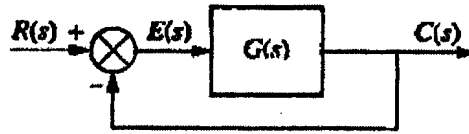

Figure 3
3. The unity feedback system shown in Figure 3, where $G(s) = \frac{K(s+\alpha)}{(s+\beta)^2}$ is to be designed to meet the following specifications: steady state error for a unit step input = 0.1; damping ratio = 0.5; natural frequency = $\sqrt{10}$. Find K , α , β .